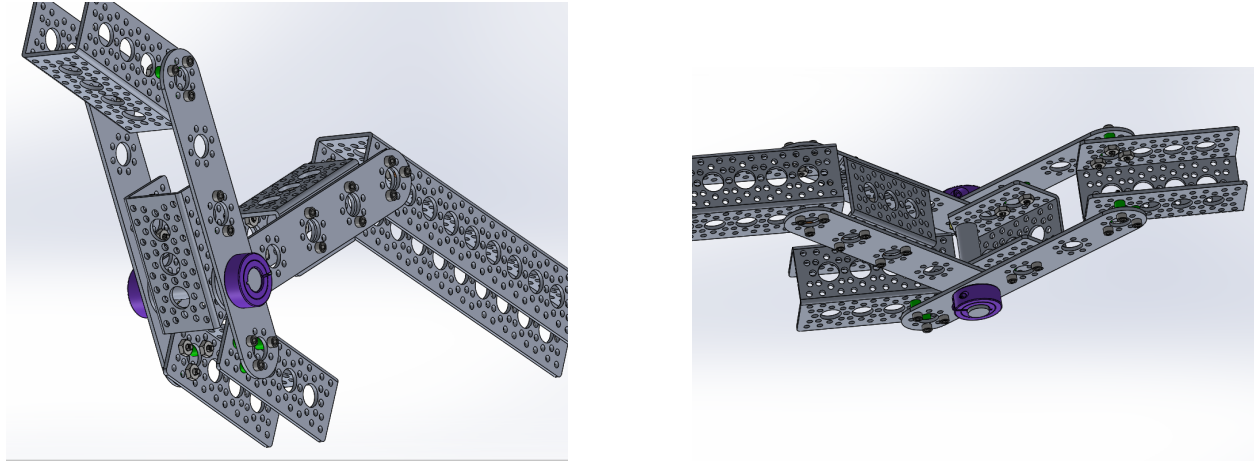

Figure 9: Rocker-Bogie Checkpoint
7. **Checkpoint:** At this point your rocker bogie joint should look like Figure 9: